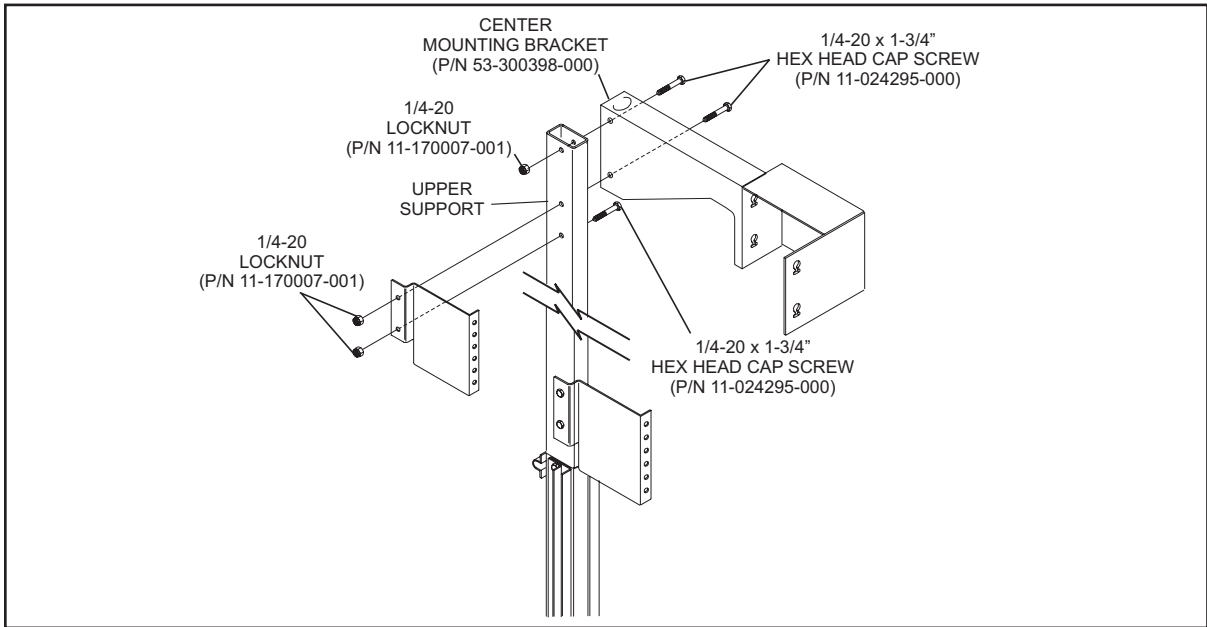

Figure 22
1. Install the intermediate support assembly “C” projection screen mounting bracket and upper graphic standoff. Refer to *Figure 22*.